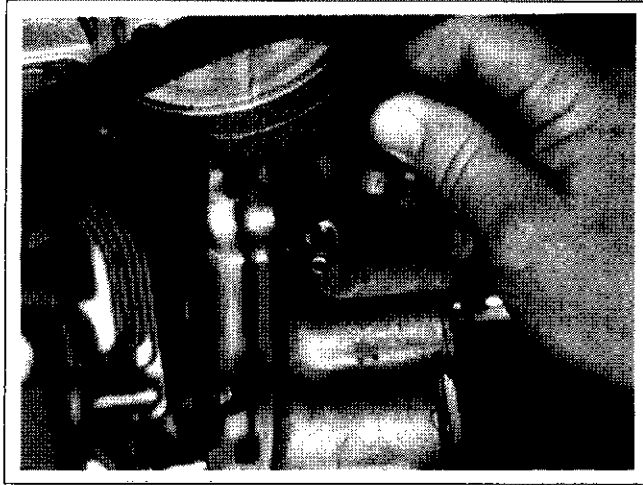

Figure 9-12. Disconnecting Pulse Line from Crankcase (Latest Model).
2. Disconnect the pulse (vacuum) line from the crankcase or from the valve cover on earlier models. See Figures 9-12 and 9-13.